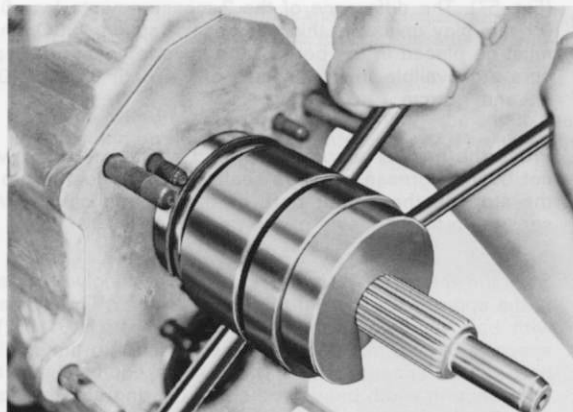

Fig. 54
4. The difference between the 2 measurements less 0,5 mm to 0,8 mm for the axial play of the 4th gear synchro ring (402) gives the thickness of the spacer (209), which must be placed under the ball bearing (212). The shims are available in thicknesses of 0,5; 0,6; 0,7; 0,8; 0,9; 1,0; 1,1; 1,2; 1,3; 1,4 and 1,5 mm.
5. Push the spacing washer over the input shaft. Press the ball bearing (212) with pressing tool .8. up to the stop on the input shaft and into the housing (Fig. 54).